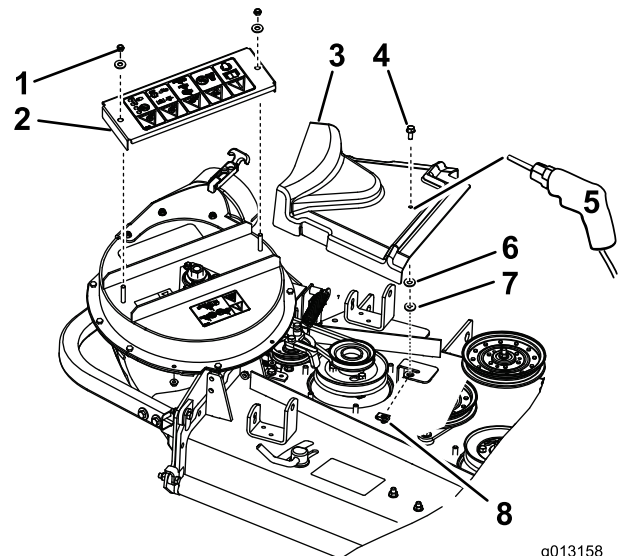

Figure 2
1. Remove the existing blower cover (Figure 2). Save the hardware.
1. Remove the existing belt cover (Figure 2). Save all existing hardware
3. Drill a 11/32 inch diameter hole where the existing latch in the belt cover was installed (Figure 2).
4. Install the bolt (5/16 x 5/8 inch) into the cover and secure it to the belt cover with a washer (5/16 inch) and push nut (5/16 inch)(Figure 2).
5. Install the belt cover and tighten the bolt (5/16 x 5/8 inch) (Figure 2).
6. Install the U-nut into the belt cover bracket (Figure 2).
7. Install the new blower cover (Figure 2).